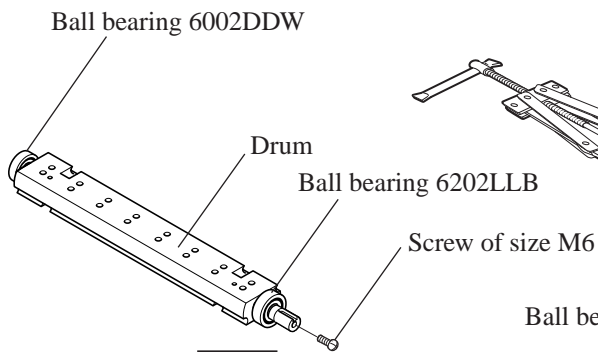

Fig. 7
(1) To protect the screw hole for hex socket head bolt M6x12, insert a screw of size M6 as illustrated in Fig. 7.